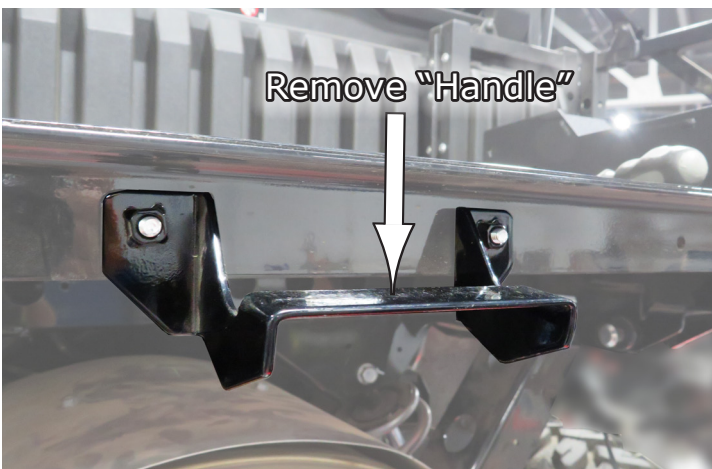

Fig.10a
10. The next thing is to remove the “Handle” attached to the end of the bed as shown in **Fig.10a-b**. Remove the **Factory Bolts**, one on each side, and set aside.